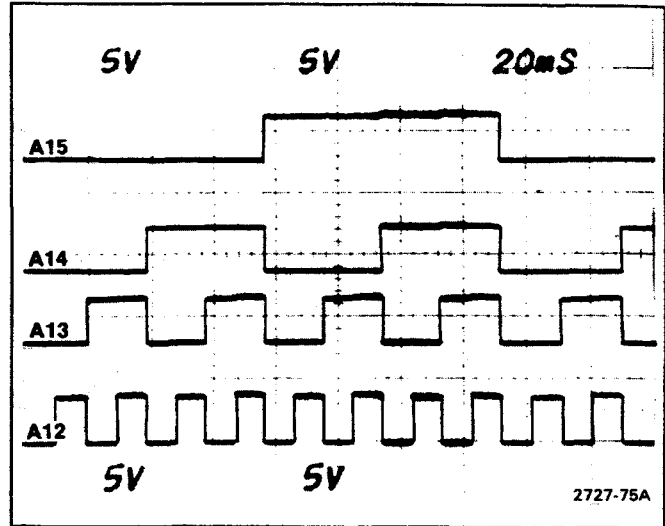

Figure 6-32. A15 through A12 in microcomputer test mode.
**Microcomputer Bus** — As the microcomputer cycles through its address space, it toggles the address lines. The MSB, A15, has a period of approximately 1540 ms. Each line, A14 through A0, has a period half that of the previous line. Thus, the LSB A0 has a period of approximately 4.7  $\mu$ s. High-order lines A15 through A12 are shown in Figure 6-32. Ignore the narrow pulses that may be evident during the low portion of each cycle.